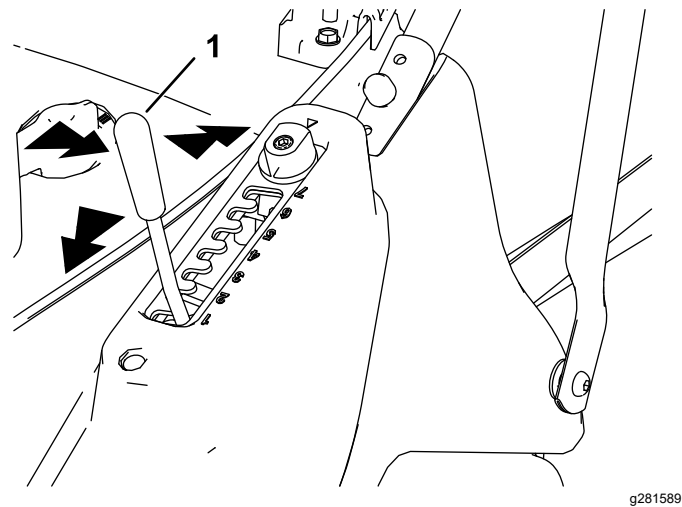

Figure 12
1. Grip the height-of-cut lever and pull sideways to disengage it from the locking notch (Figure 12).
2. Push the lever forward to lower or pull it backward to raise the height of cut (Figure 12).
3. Release the lever at the required position and ensure that it locks firmly into 1 of the 7 setting notches (Figure 12).